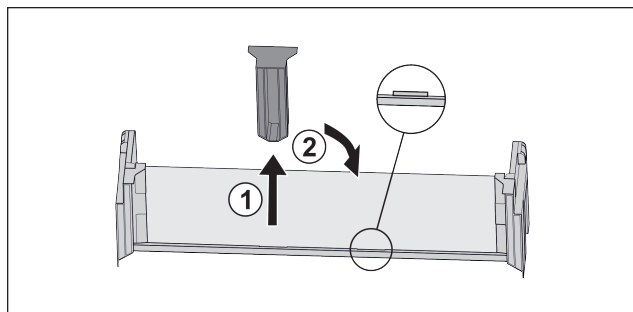

Fig. 17
- ▶ Pull off the middle holder Fig. 17 (1).
- ▶ Insert the middle holder in the second position Fig. 17 (2).